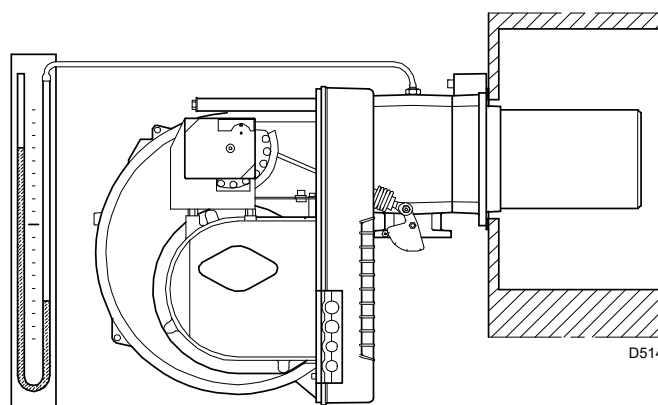

Fig. 27
- Fit a U-type pressure gauge (Fig. 27) to the gas pressure test point on the pipe coupling.
The arrival of gas to the sleeve is indicated by the U-type pressure gauge (Fig. 27).
A rough indication can be obtained from tables on page 20, just read the gas pressure on the U-shaped pressure gauge, see Fig. 27 on page 24, and follow the instructions given in page 20.